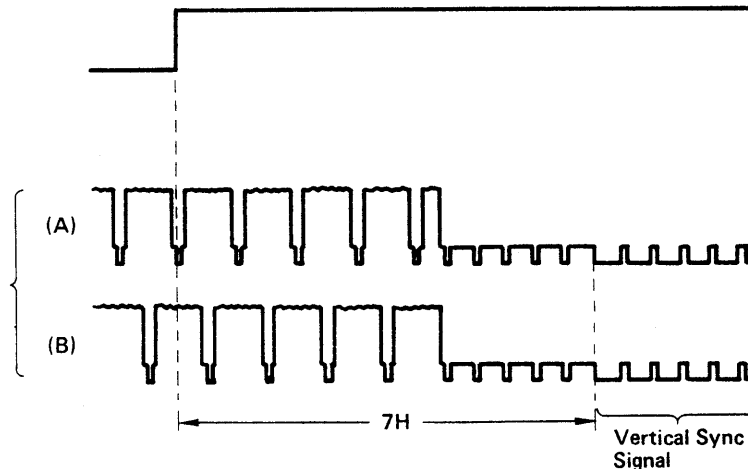

Fig. 6-3-2
a. Load a video cassette suitable for recording, and set the VCR for the recording of a television broadcast. b. Connect channel 1 of the oscilloscope to TP4001 (RF switching pulse). c. Connect channel 2 of the oscilloscope to the video output terminal. d. Adjust VR4003 so that the leading edge of the vertical synchronizing signal of the video signal (video output terminal) is delayed $7H \pm 0.5H$ from the fall of the RF switching pulse. (Refer to Fig. 6-3-2.)